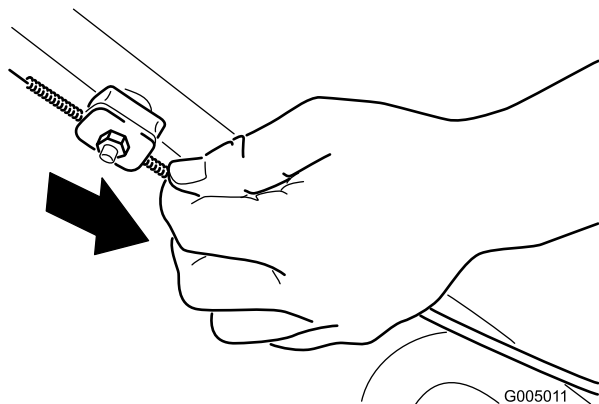

Figure 38
2. Pull down the cable jacket (toward the mower) until there is no slack in the cable (Figure 38).